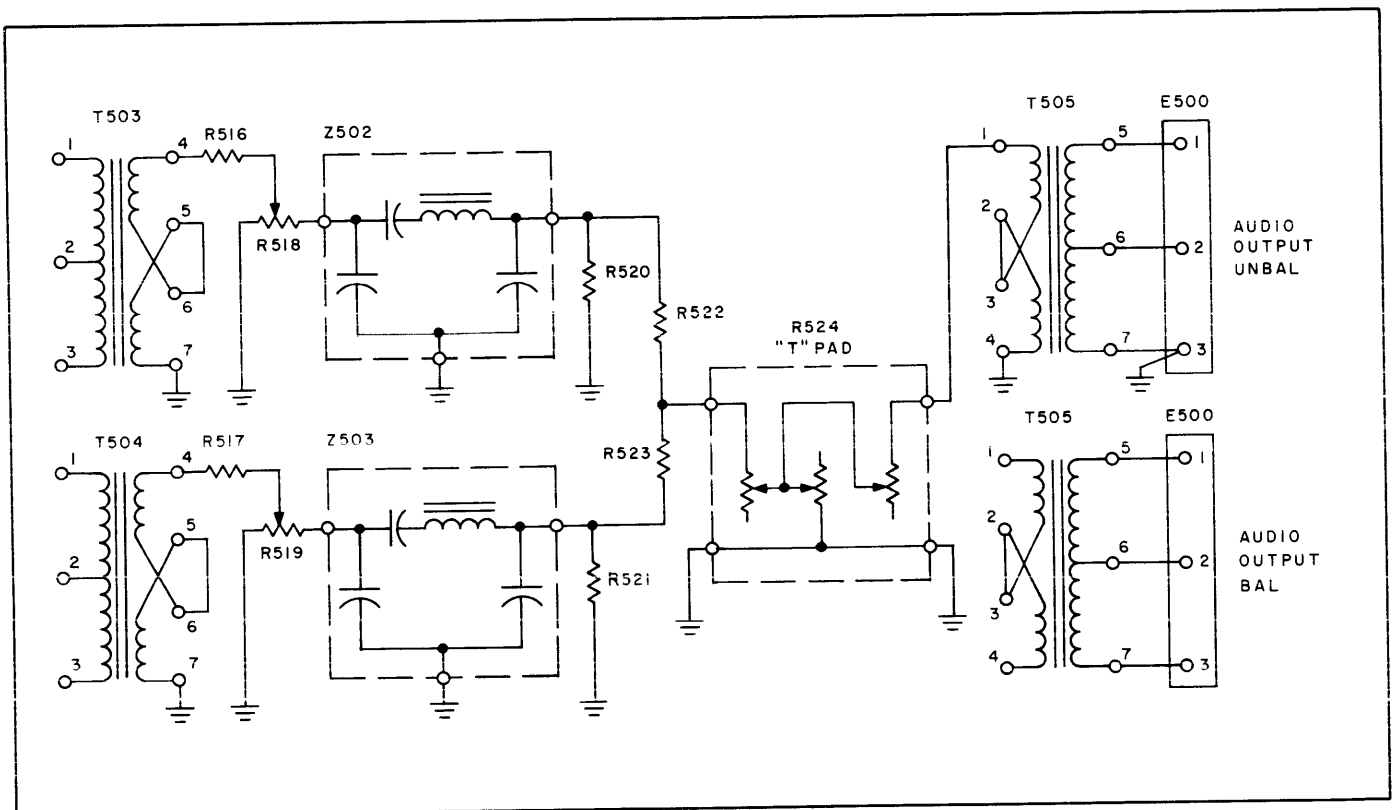

Figure 4-4. Schematic Diagram, Output Network, TTG-2
(3) AUDIO OUTPUT NETWORK. - Refer to figure 4-4. The audio output network incorporated in the TTG-2 comprises bandpass filters Z502 and Z503, the secondary of transformers T503 and T504, "T" Pad R524, and transformer T505. Output signals from transformers Z502 and Z503 are filtered by Z502 and Z503 to remove any remaining distortion products. The signals are then applied to transformer T505 and coupled to terminal strip E500. The individual signal (935 cps or 2805 cps) level can be varied by R518 or R519 in order to obtain balance of both signals. Combined signal level may be adjusted by R524 (AUDIO OUTPUT control).